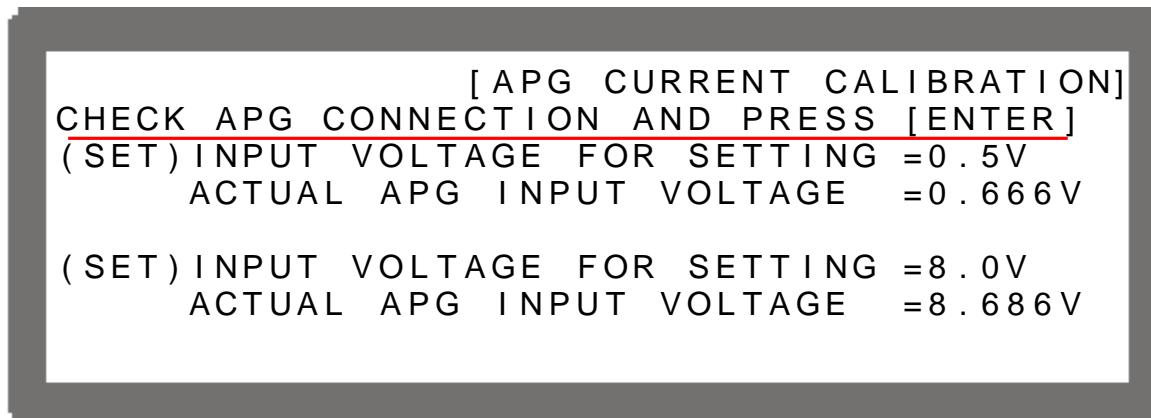

Figure 3-123
2. Press “” to confirm entering into APG Voltage Calibration options as Figure 3-123 shows.